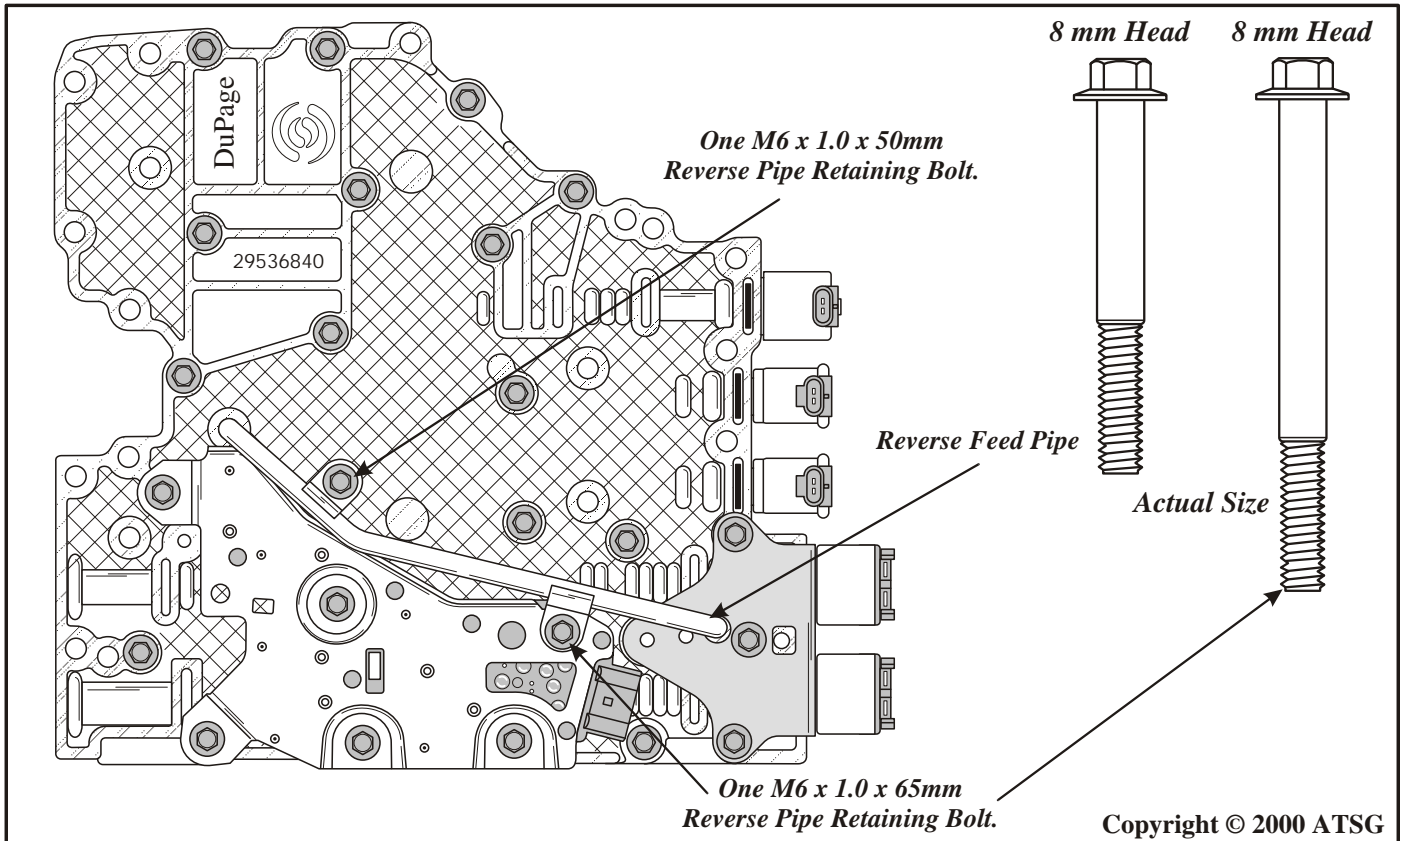

Figure 129
25. Install the reverse pipe onto the valve body, as shown in Figure 129, using one 50mm long bolt and one 65mm long bolt in the locations shown in Figure 129 and snug them down.
26. Now torque all valve body bolts to 12 N.m, (9 ft.lb), beginning in the center and working outward in a circle (See Figure 129).